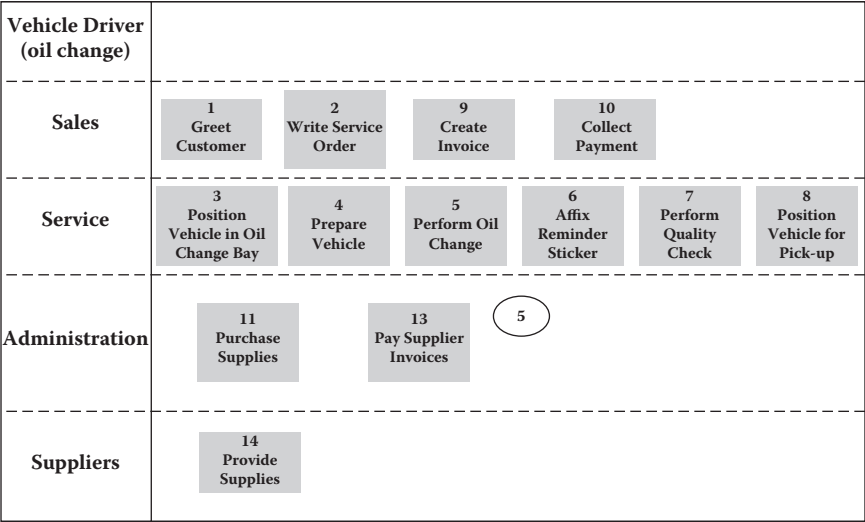

Figure A.15 Swimlane diagram (partial) with activities sequenced using Post-it notes.
5. Arrange the Post-it notes so that the group is satisfied that the map reflects the workflow *as a whole* (Figure A.15).